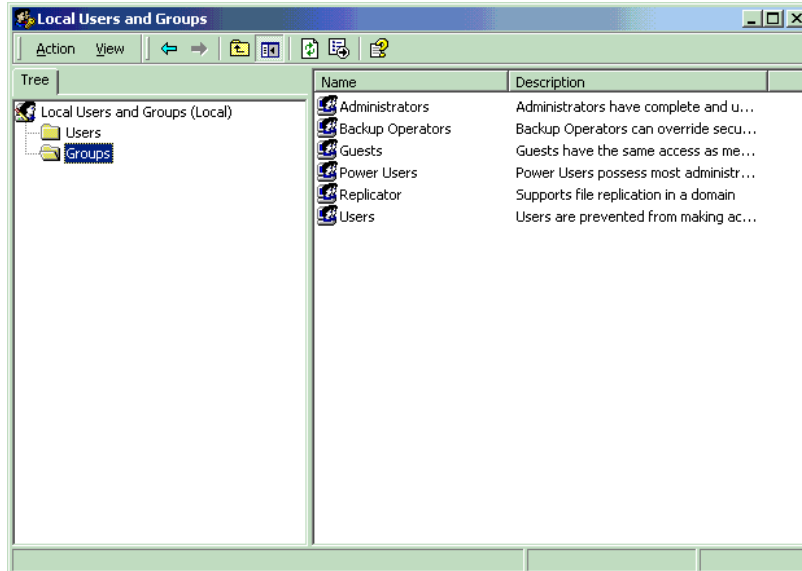

Figure 12. Local Users and Groups Window with Groups Folder
5. Double-click the Groups folder. A list of groups appears in the right region of the window (Figure 12).